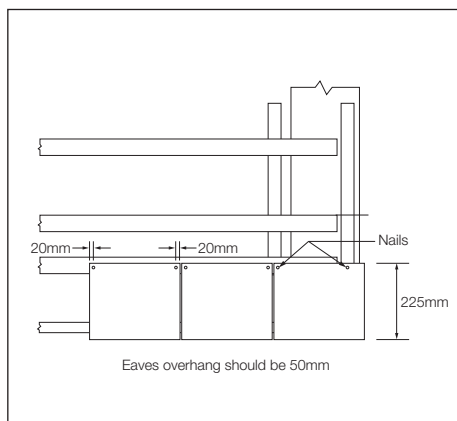

Fig. 8
- 1 Set out roof with battens by calculating the gauge using the formula on page 86, remembering to allow eaves slates to overhang gutter by 50mm (Fig. 8, page 89).
- 2 Begin by cutting to size and drilling 2 no. 4mm holes 20mm in from either edge of the slate for head nailing the first under-eaves course along the eaves (Fig. 8).